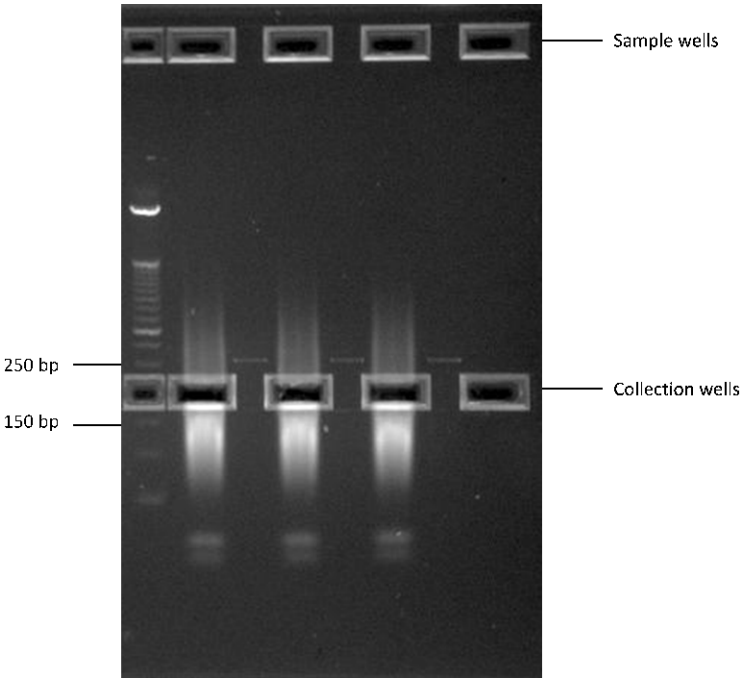

Figure 2 Elution of an approximately 200 bp region. This image shows three samples on the same gel.
- 5 When the 200-bp band from the marker lane is in the center of the collection well, stop the run if the run has not already stopped (see Figure 2).